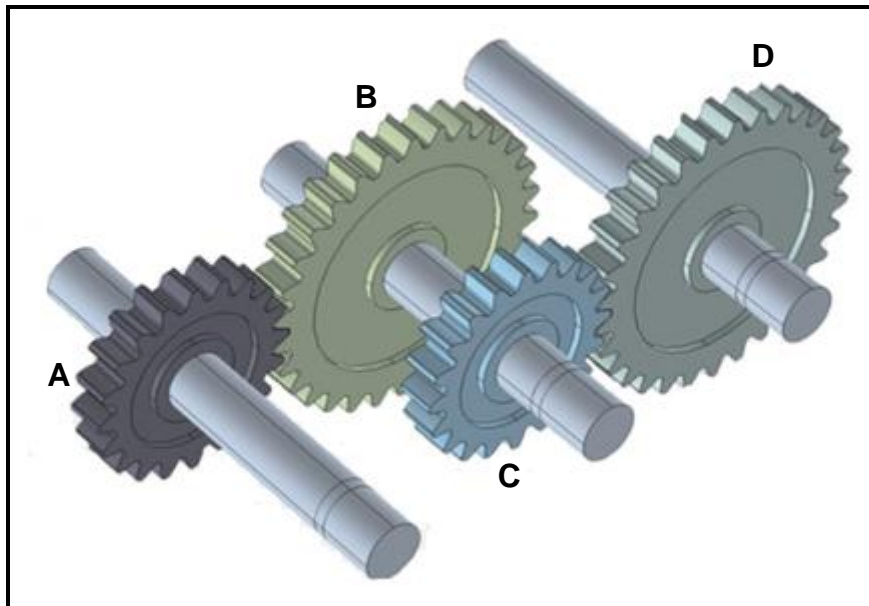

FIGURE 11.6
11.6 FIGURE 11.6 below shows a gear drive system. Driver gear **A** on the shaft of the motor has 30 teeth and meshes with gear **B** with 40 teeth on the counter shaft. On the counter shaft is another driver gear, **C**, with 20 teeth that mesh with gear **D** with 60 teeth on the output shaft.